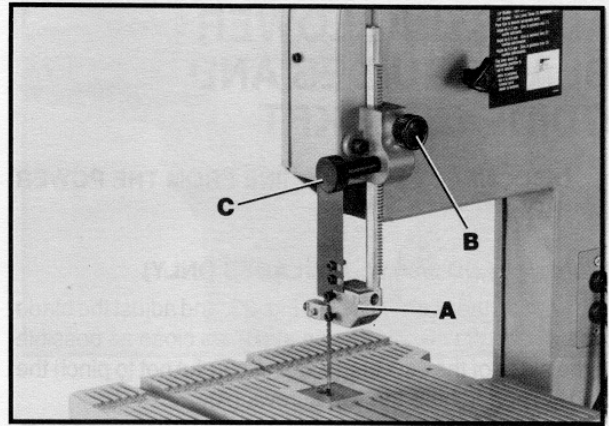

Fig. 21
The upper blade guide assembly (A) Fig. 21, should always be set about 1/8" above or as close as possible to the top surface of the workpiece being cut. Loosen knob (B) Fig. 21, rotate knob (C) and position the guide assembly (A) to the desired position. Then tighten knob (B).